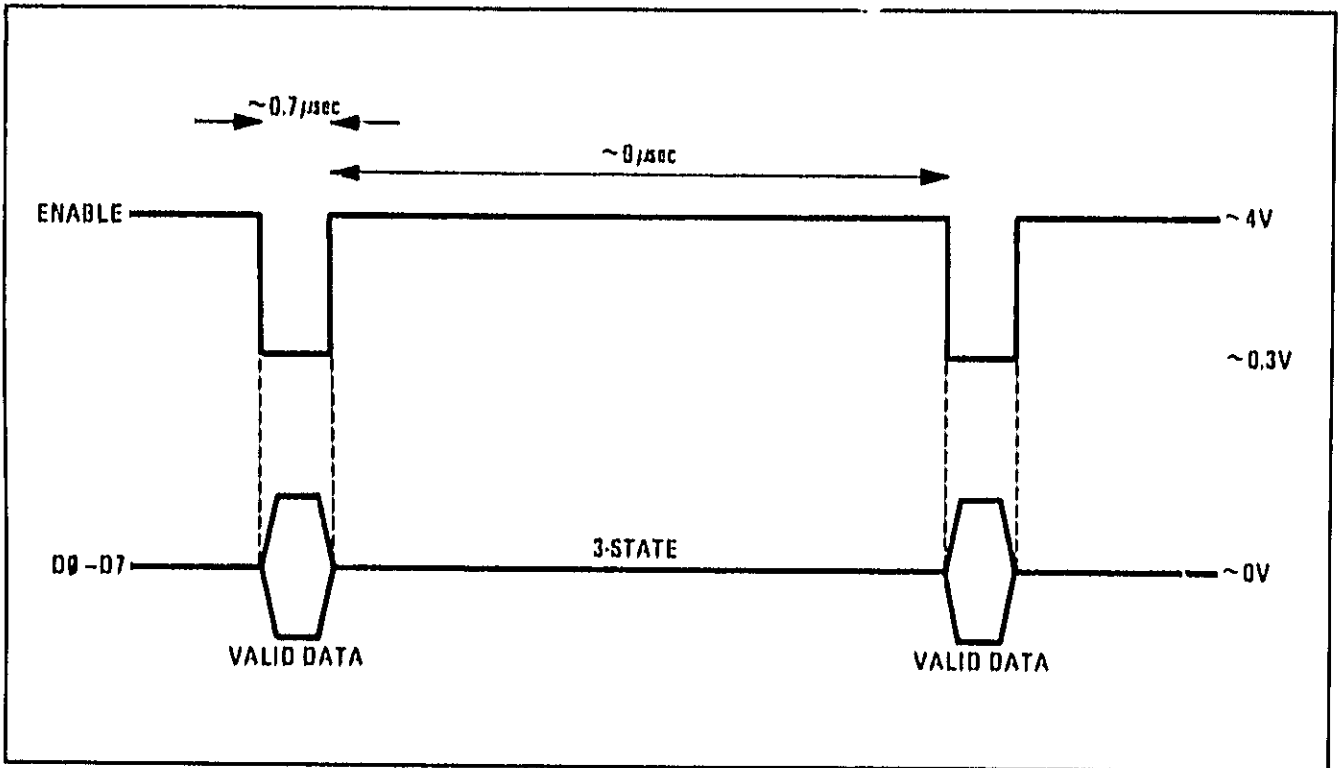

Figure 8-3 Hex Addressed Fast Read - Timing Diagram
- HEX ADDRESSED FAST READ, M5, provides an operator-initiated check for verification of the data bus, in which the addressed device is clocked in real time. Latch outputs can be traced from the onboard location back through the data bus to the microprocessor. At each buffer, verify TTL level response to the enable pulse. Enable line waveforms are shown in Figure 8-3.